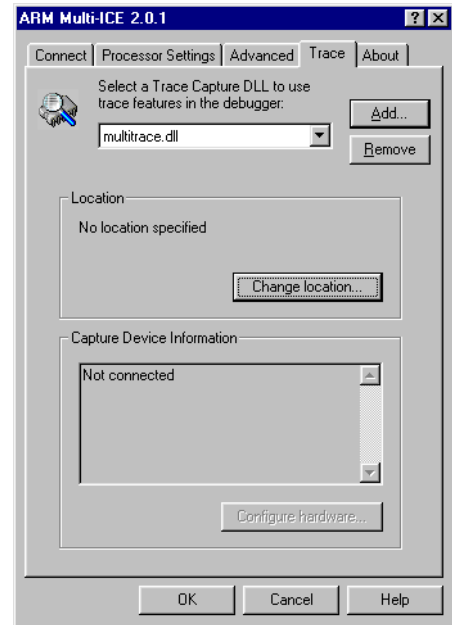

Figure B-4 MultiTrace configuration
10. With `multitrace.dll` selected, the MultiTrace configuration controls are added to the Multi-ICE Trace tab (Figure B-4 on page B-6). You must configure MultiTrace as described in the MultiTrace User Guide.